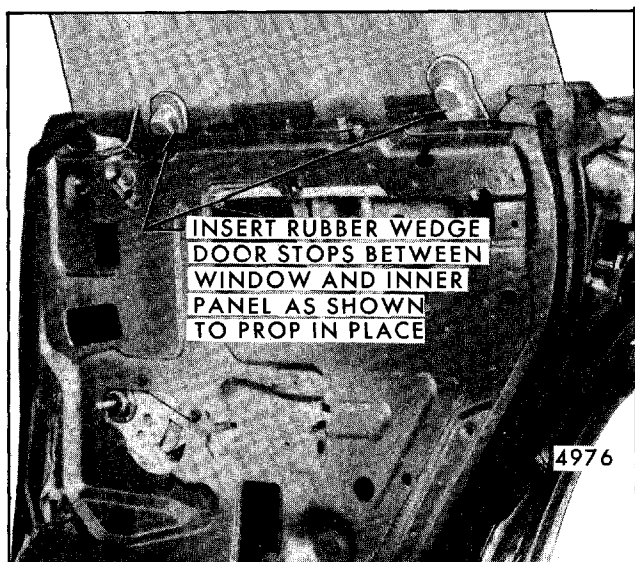

Fig. 5-143 - Door Window Propped in Place
2. Lower window only enough to provide access to lower sash channel cam attaching screws. Support window in this position with rubber door stops (Fig. 5-143) or cloth body tape applied over door frame.